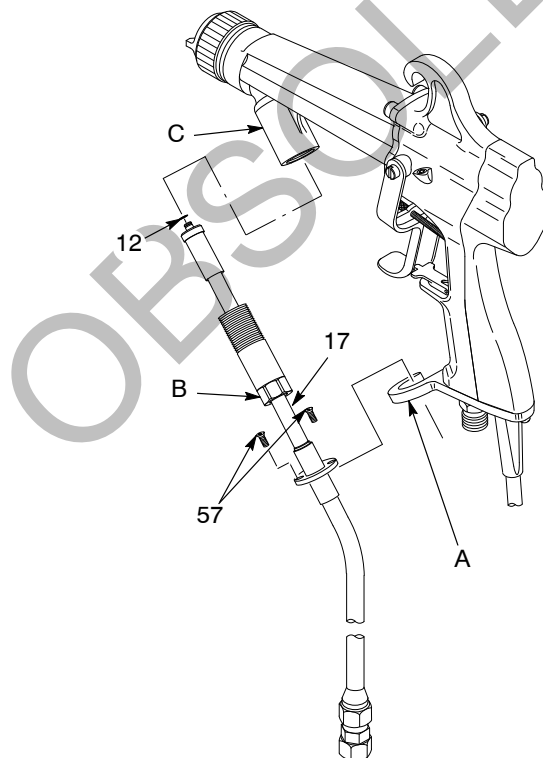

Figure 7-11 Isocore Fluid Supply Hose Replacement
3. See Figure 7-11. Loosen the fluid hose collar nut (B) and remove the fluid hose from the cable bracket (A).
4. Loosen the hose retaining nut (C), which is located at the extension fluid inlet boss (D), and unscrew it completely.
5. Pull the hose assembly (17) out of the spray gun extension.
7. Inspect the O-ring (12) on the gun end fitting. Replace if necessary.
9. Push the end fitting into the extension fluid inlet boss (D).
10. Apply a liberal coat of dielectric grease to the threads of the retaining nut (C) and screw the retaining nut into the extension and tighten  $\frac{1}{4}$  turn past hand tight. Do not overtighten.
11. Install the fluid hose assembly (17) into the cable bracket (A).
12. Install the two screws (57) in the hose flange to secure the fluid hose to the cable bracket.